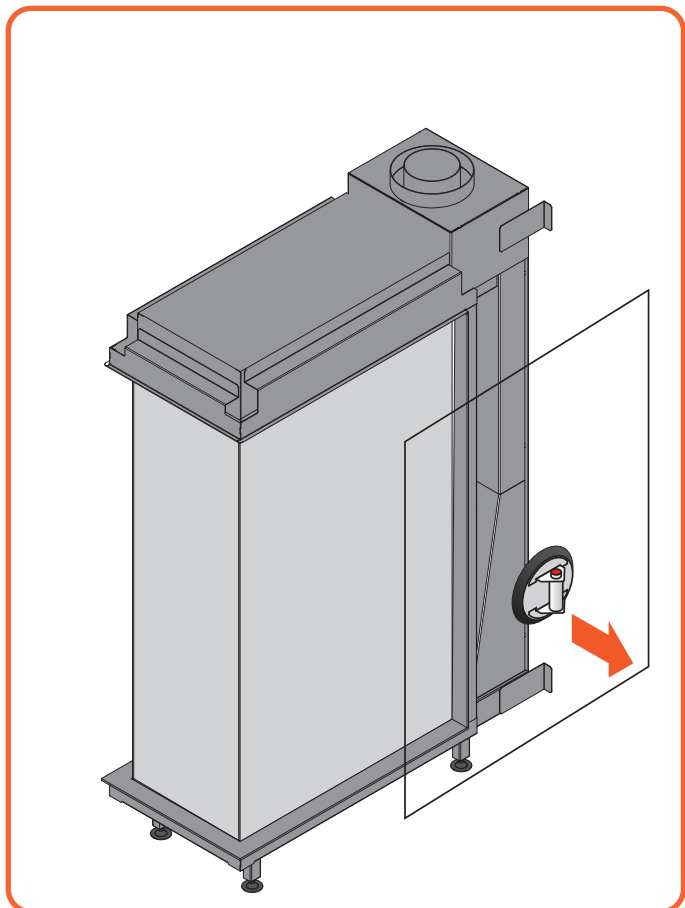

Figure 9.7 | Carefully lift the glass out of the fireplace
- Place the Suction cups on the glass and make sure they are fixed securely, see Figure 9.7
- Remove the glass rope, see Figure 9.7.